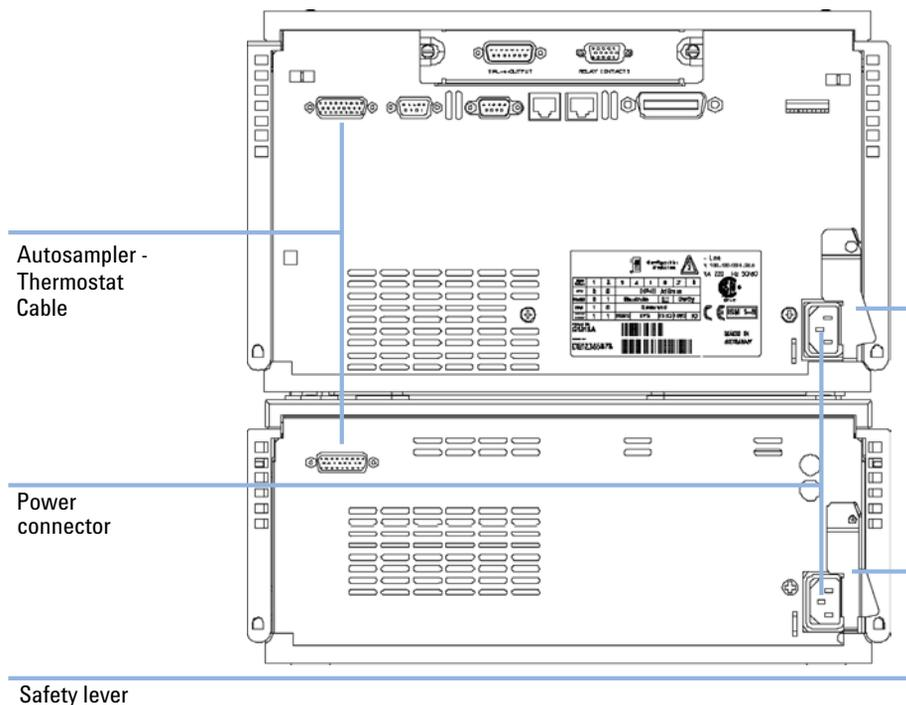

Figure 10 Power Connectors and Safety Levers at Rear of thermostatted Autosampler.
- 2 Connect the cable between the autosampler and the thermostat, see Figure 10 on page 30.
- 3 Move the safety lever at the rear of the two modules to the right position, see Figure 10 on page 30.